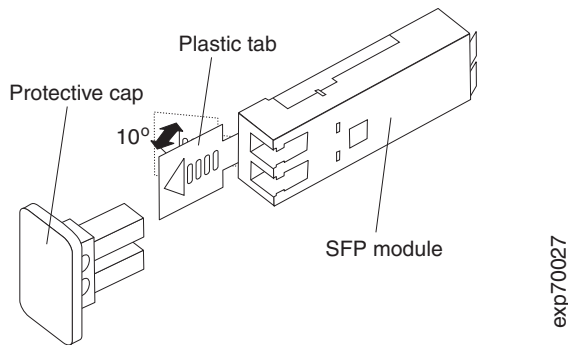

Figure 14. Unlocking the SFP module latch - plastic variety
- For SFP modules that contain plastic tabs, unlock the SFP module latch by pulling the plastic tab outward 10°, as shown in Figure 14 on page 28.